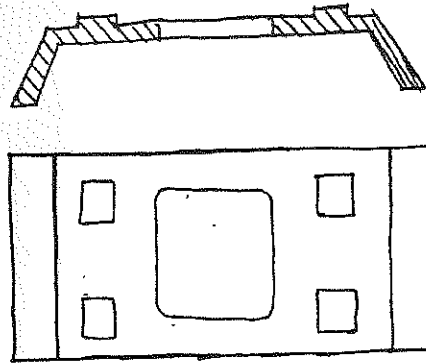

Fig.5 Motor bed
14. (a) Choose a parting line for casting the motor bed shown in Fig.5. How many number of cores should be used for your design? Draw the cross sectional view of cope and drag box assembly incorporating the mould cavity and cores (if any) in it.